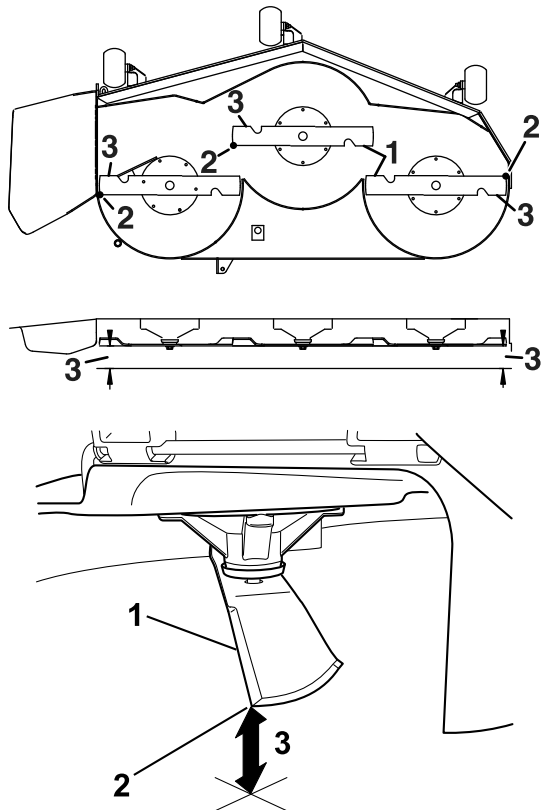

Figure 84
6. Measure between the blade tip and the flat surface (Figure 84). If the measurements are not within 5 mm (3/16 inch), adjust the leveling; continue with this procedure.
12. Carefully rotate the blades side to side (Figure 84).